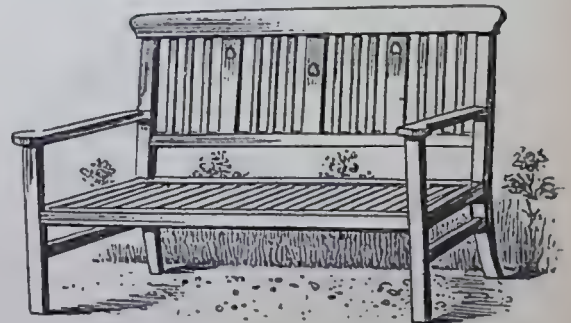
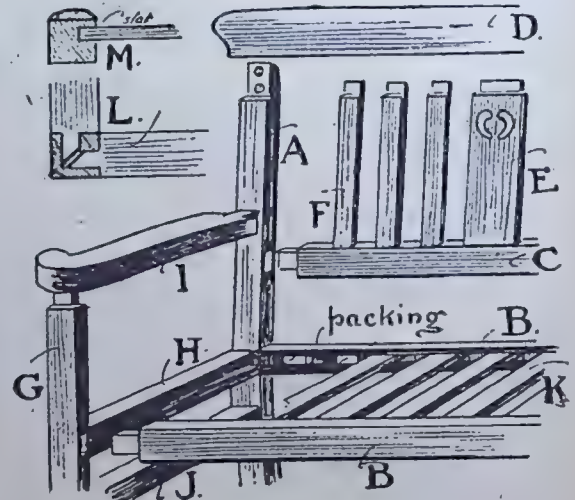

FIG. 1.—GARDEN SEAT.
FIG. 3.—METHOD OF FITTING TOGETHER.
back, these being mitred to enter as shown in plan L, and then pinned. Mortises are also cut for the rails C and J to enter well home; the mortise for the arm can be cut right through and be wedged. The back leg can also carry a tenon to enter the top rail, D, or may be notched back to brace it up behind by screwing, as Fig. 3.
THE PANELS (E), of which three are indicated in Fig. 1, can finish 3 ins. wide by $\frac{1}{2}$ in. thick, and will be 12 ins. long, including stubs; they may be plain or have a neat fretted opening after the manner of Fig. 3.